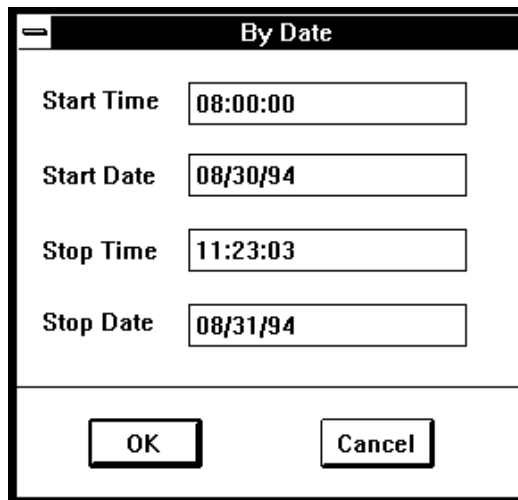

Figure 8-11: Typical By Date Dialog Box
5. Optionally select By Date and enter the desired **Start Time**, **Start Date**, **Stop Time**, and **Stop Date** in the **By Date** (Figure 8-11) dialog box.